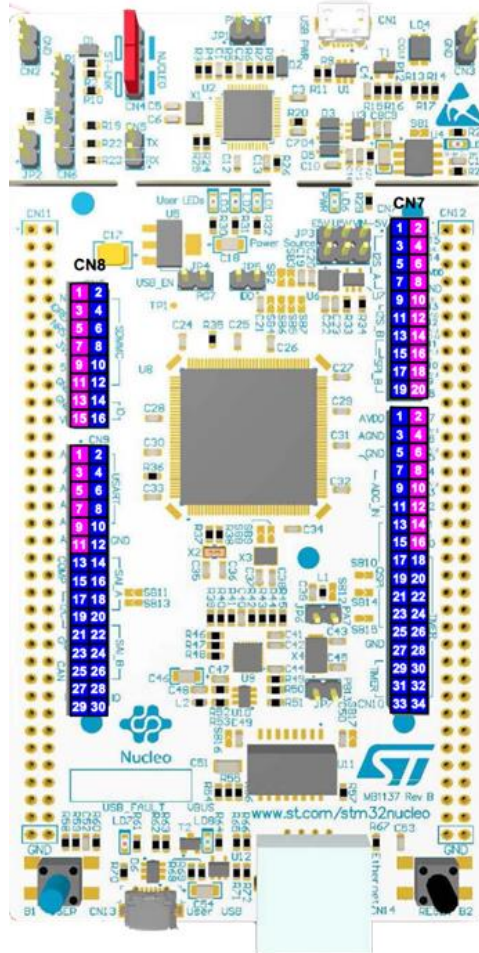

Figure 7. Nucleo FZ429ZI
2. Using the connections in Table 1, connect the FPGA to the Nucleo Board using prototyping wires. Use Figure 5, Figure 6 and Figure 7 to locate the correct pins.